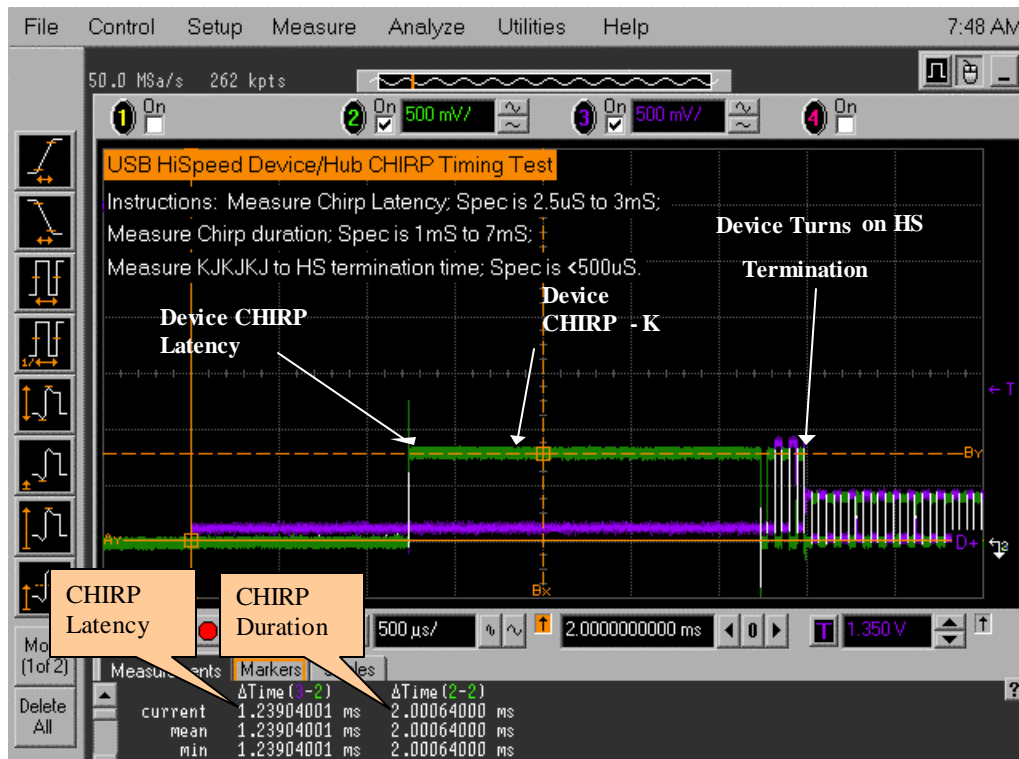

Figure 16. Device CHIRP (Speed Detection)
5. Click [Enumerate Bus] to capture the CHIRP handshake as in Figure 16.
6. Figure 16, measure the device's CHIRP-K latency in response to the reset from the host port
7. Using the automatic measurement shown in Figure 16, measure the device's CHIRP-K duration